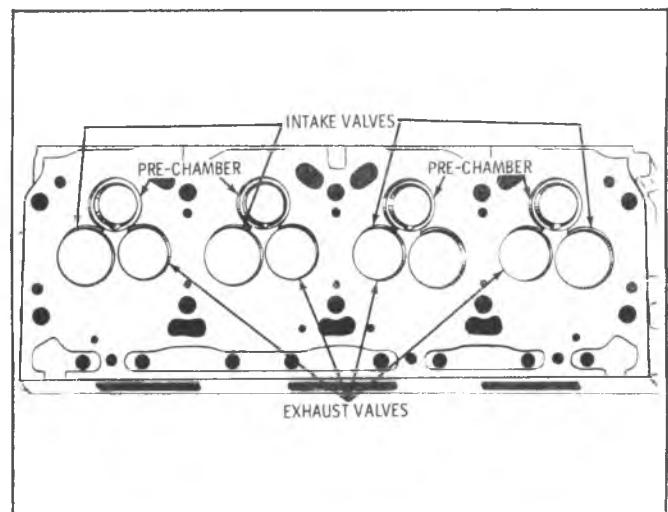

Fig. 6A6-49—Valve Location
1. Install pre-chamber, if removed. The pre-chamber can only be installed in one position. (Fig. 6A6-45).